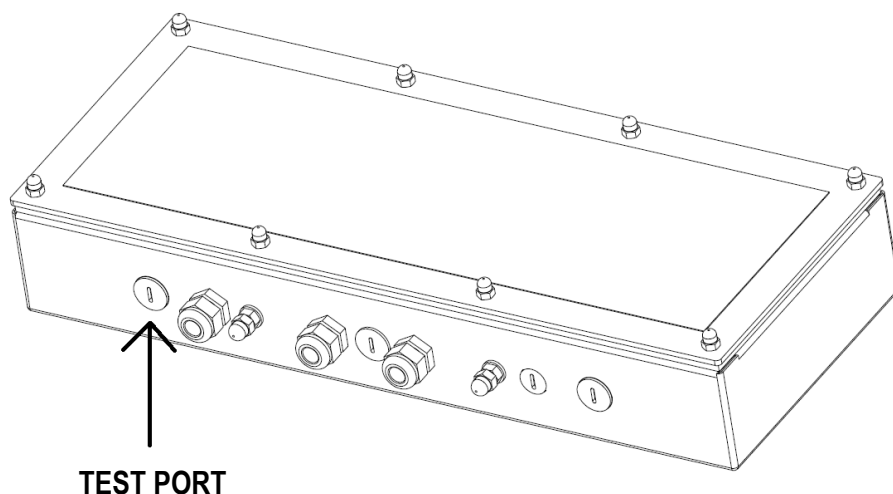

Figure 1
- The instrument is equipped with a test port for testing the properties of restricted breathing to be made after the installation and during maintenance(see Figure 1).